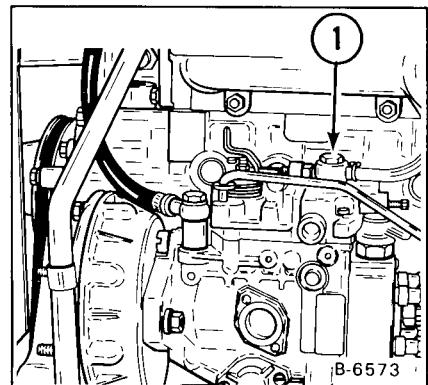

Fig. 1-15 Fuel Injection Pump
- (4) Close the vent plug on the top of the fuel filter.
- (5) Again operate the hand pump until the hand pump feels solid.
- (6) Loosen the vent pump on the fuel injection pump (Fig. 1-15, Item 1).